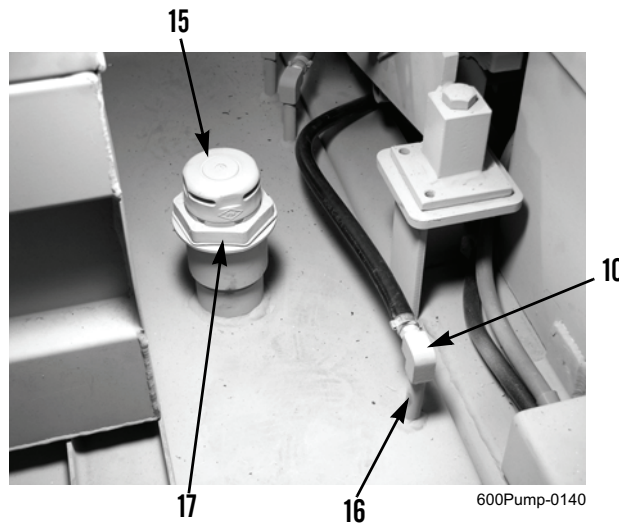

Figure 4. Vent Assembly.
5. Remove elbow fitting (Figure 4, Item 10) from fuel tank nipple (Figure 4, Item 16).
6. Remove cap (Figure 4, Item 15) from vent assembly (Figure 4, Item 17).